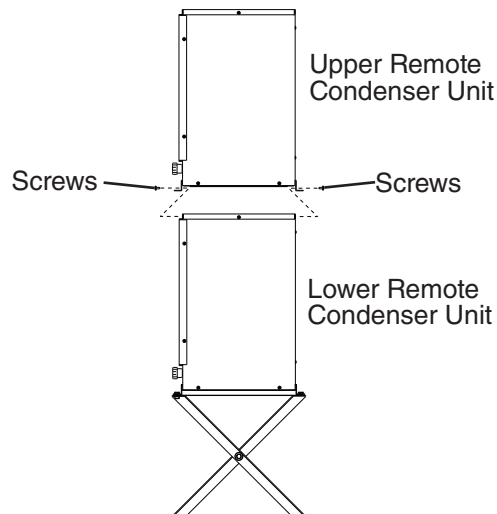

Fig. 16
- 2) Place the upper remote condenser unit on top of the lower. See Fig. 16.